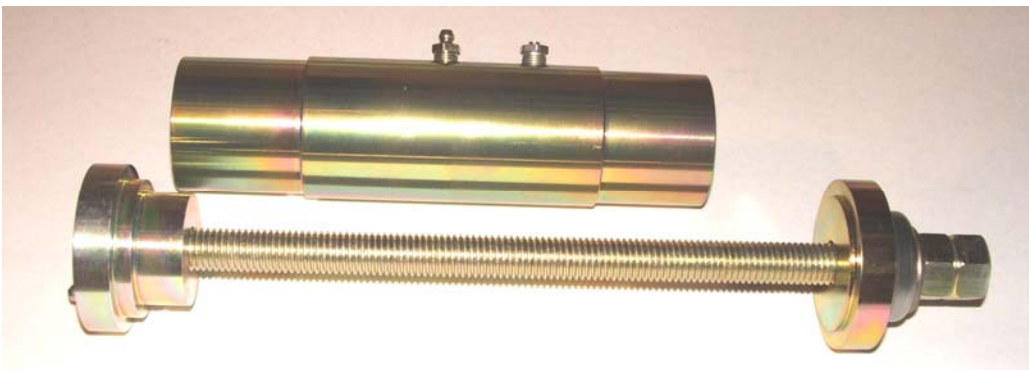

Fig. 4
Step 3. Using tool # TDK-12250 (see fig. 4) or a suitable equivalent puller, install the puller to press fit the tube into the spider channel and align. Tighten the puller assembly until the tube is fully seated.